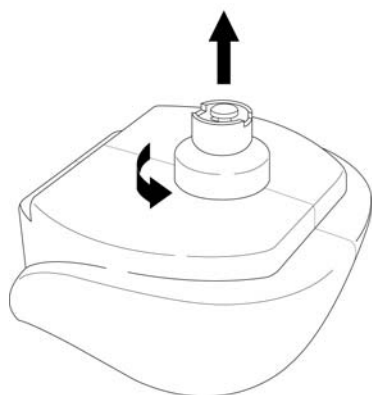

FIGURE 10
2. Holding Water Tank upside-down, unscrew and remove Valve Cap by rotating it in a counter-clockwise direction (FIGURE 10).